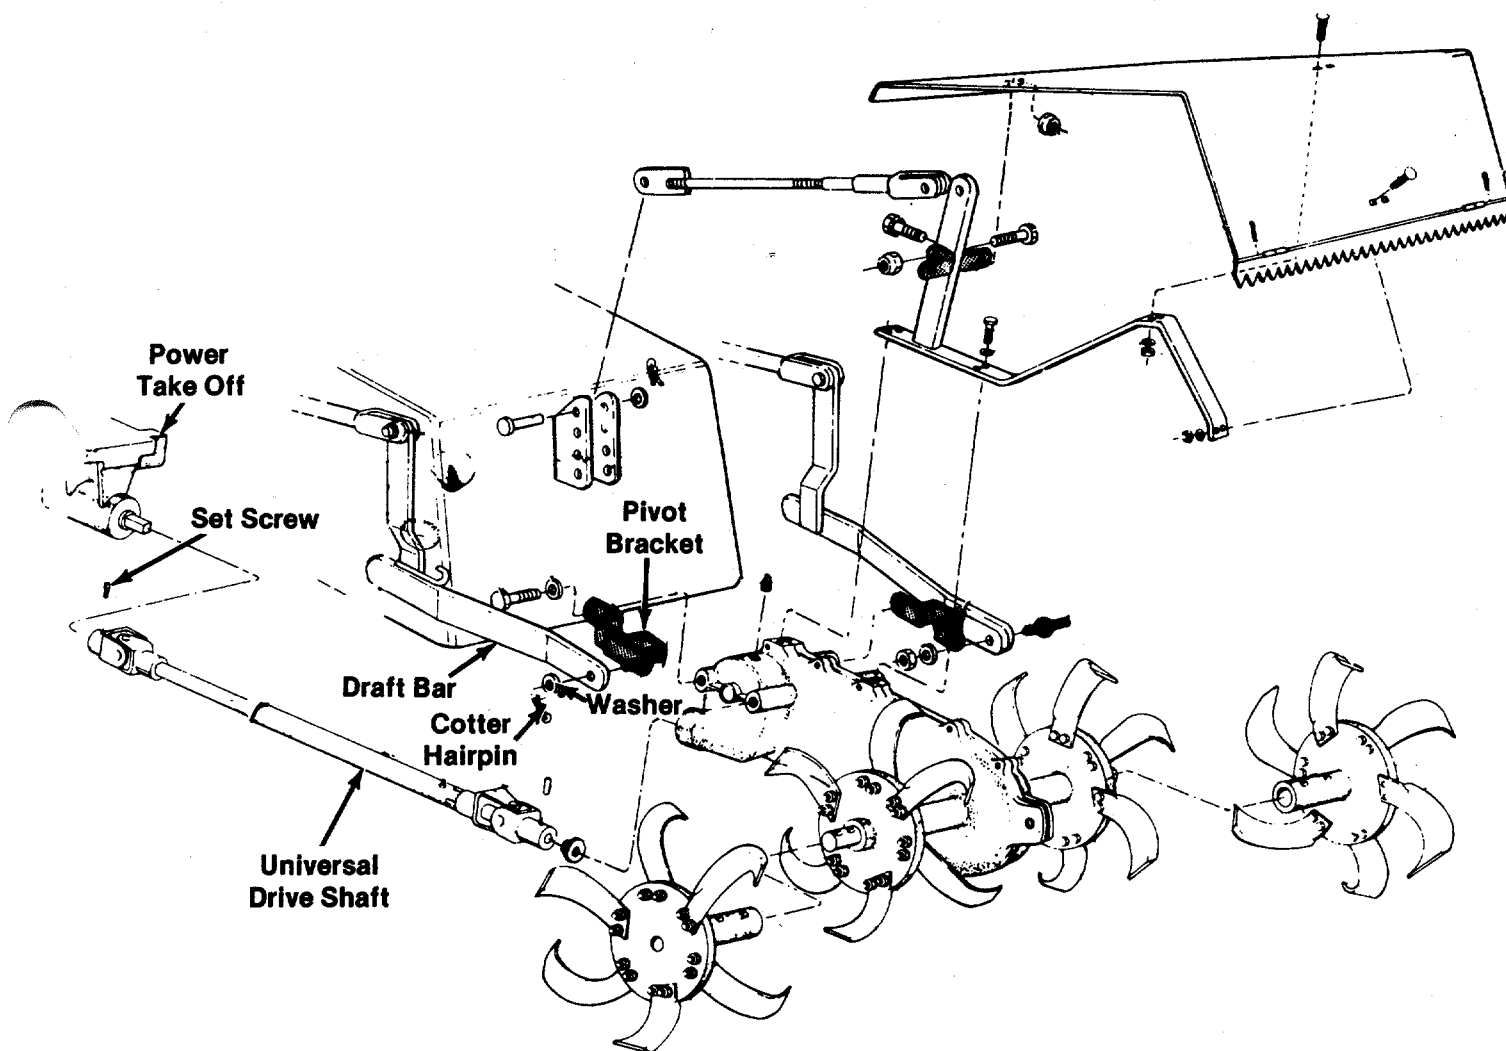

FIGURE 40.
4. Place the rotary tiller behind the tractor in the approximate position shown in figure 40.